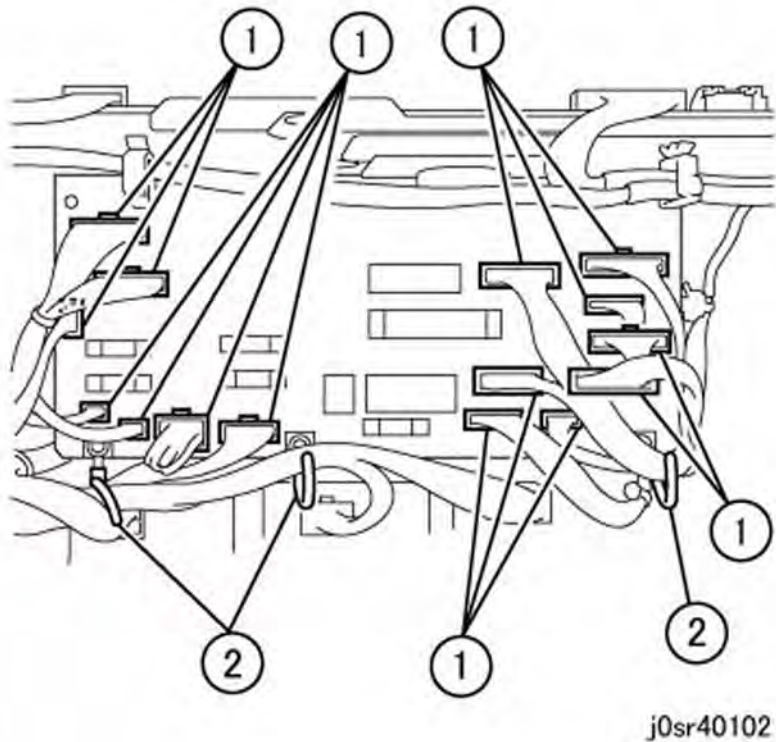

Figure 2 Removing the I/F (MDD) PWB harness connectors and clamps
5. Prepare to remove the I/F (MDD) PWB Assembly (Figure 2).